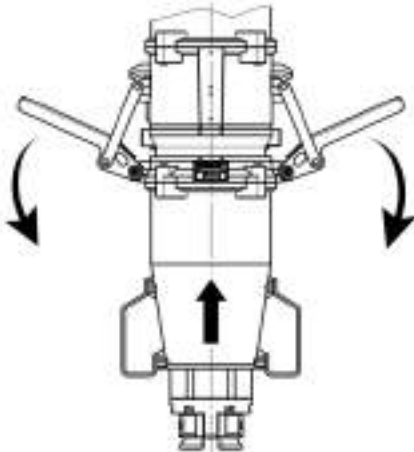

Fig.62: Closing the locking levers
3. Pull both locking levers towards your body at the same time in order to close the locking levers (Fig. 62 /arrows).